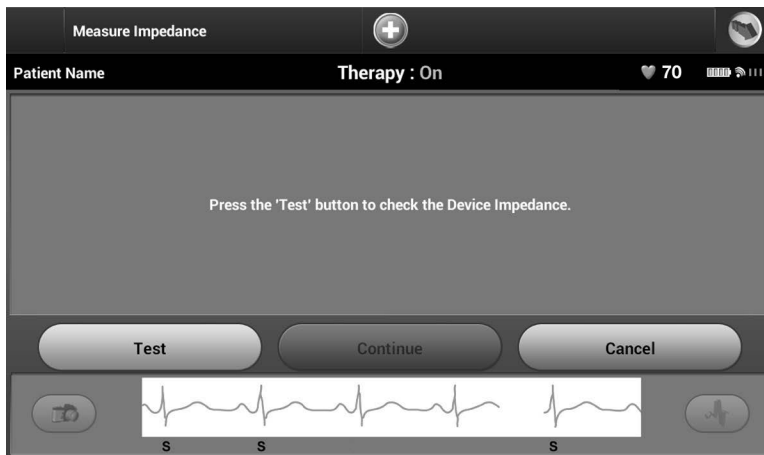

Figure 49: *Impedance test screen*
1. From the Utilities screen (accessible from the Main Menu screen), select the Manual Setup button. The Impedance Test screen appears (Figure 49).